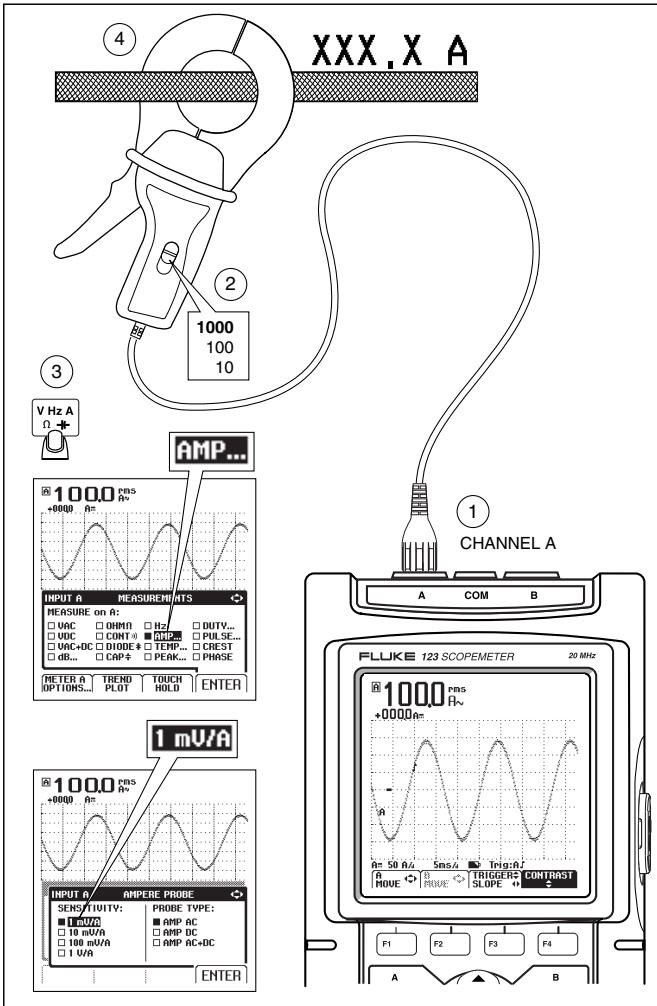

Figure 3. ScopeMeter Setups
1. Press  (shown in Figure 3).
Setups using the Current Probe and a ScopeMeter are shown in Figure 3.